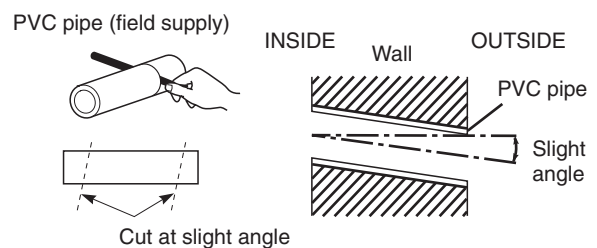

Fig. 1-96
- Measure the thickness of the wall from the inside to the outside and cut PVC pipe at a slight angle to fit. Insert the PVC pipe in the wall. (Fig. 1-96)